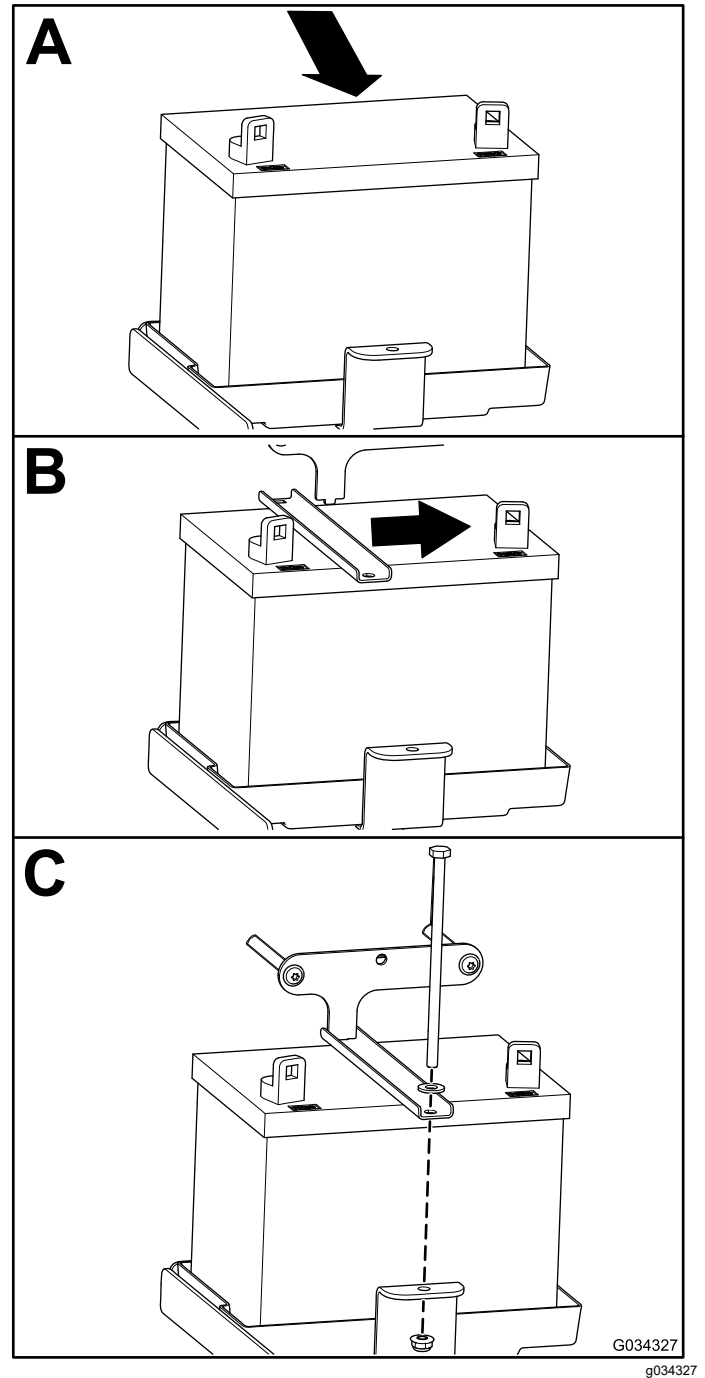

Figure 49
1. Install the battery as shown in Figure 49.